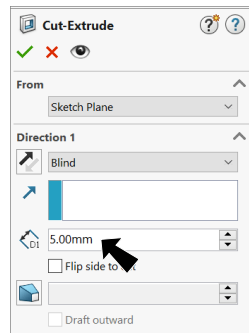

Fig. 38
Step 4. Click **Smart Dimension**  (S) on the Sketch toolbar.
Step 5. Add dimensions, **Fig. 38**.